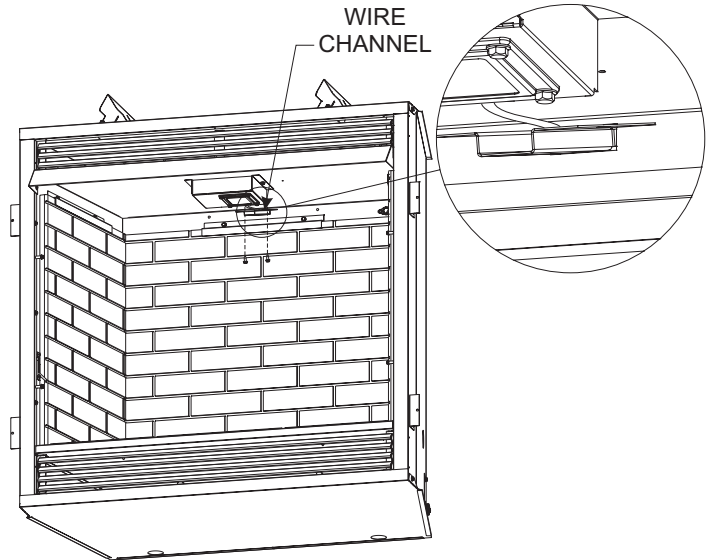

Figure 4
7. Insert bottom flange of wire channel into the hole in the rear panel slide wire channel with bottom flange in hole to one side allowing the opposite flange to slide behind the back panel. Slide wire channel, with one flange and bottom flange behind the back panel, allowing the last flange to slide behind the back panel. Secure the wire channel with (2) #10 x 1/2" hex head screws. See **Figure 4**. Check to make sure the wiring is not pinched, or in a bind when securing this assembly.